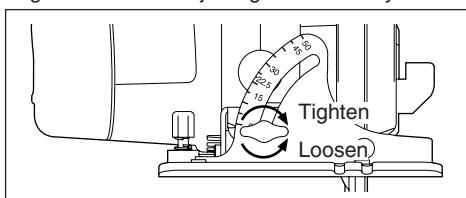

Fig. 6
- To adjust the bevel of cut setting, loosen the bevel adjusting knob. Turn the bevel adjusting knob counterclockwise.(See Fig.6) Adjust the bevel of cut.